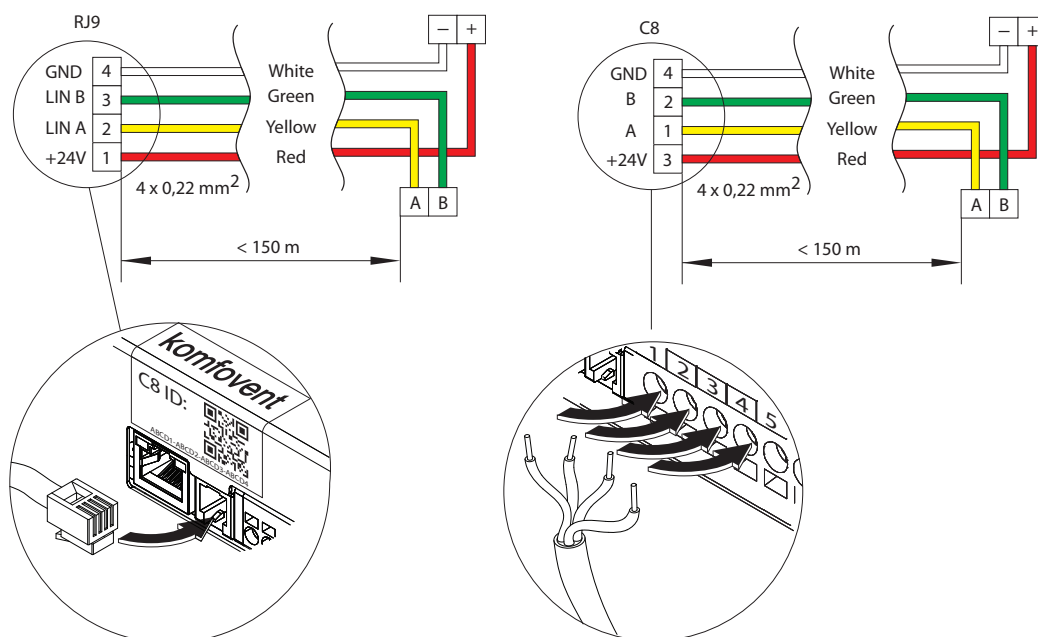

Fig. 14. Control panel cable wiring diagram
- Control panel (see. Fig. 14)
- **Outputs TG1 (6–8)** – Power supply and control signal for a water mixing valve actuator of the external heat exchanger or direct evaporation (DX) cooler/heater. Depending on the “External coil” type selected in the settings (see “Domekt User Guide”), the valve actuator will be controlled by a heating or cooling signal. An external pre-heater for frost protection of the CF heat exchanger may also be connected here.